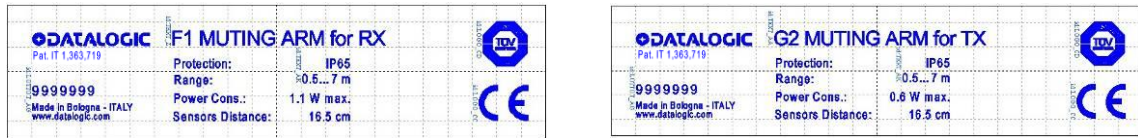

Figure 27
- Make sure that TX arm G1 is level with RX arm F1 and that TX arm G2 is level with RX arm F2; please refer to Figure 27 that shows markings at the back of each arm.